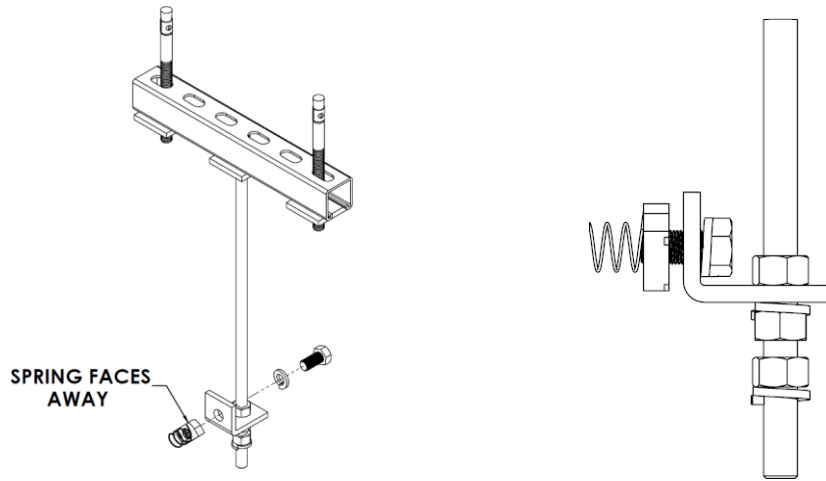

Figure 261: **Strut Channel Nut Threaded with Spring Facing Away**
- Loosely thread the strut channel nut on to the end of the bolt with the spring facing away from the 90° strut fitting (Figure 261).